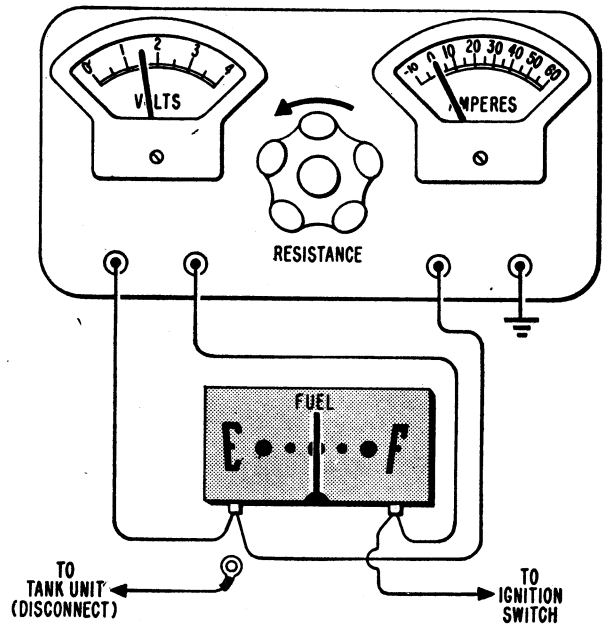

Fig. 7A Testing dash unit fuel gauge with volt-ammeter test set
2. With ignition switch *off*, connect volt-ammeter test set and dash gauge as shown in Fig. 7A.